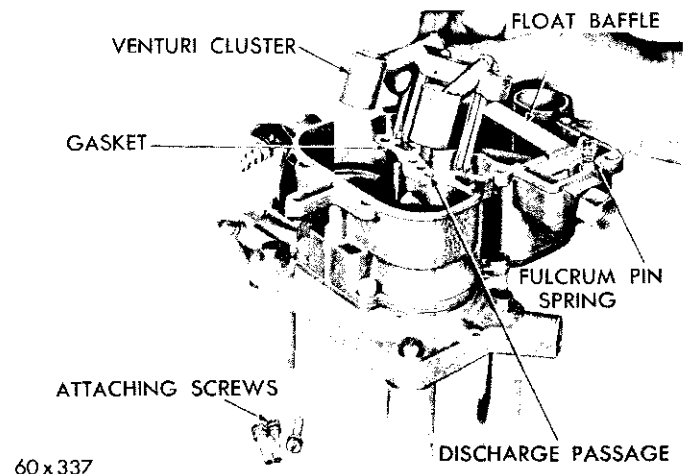
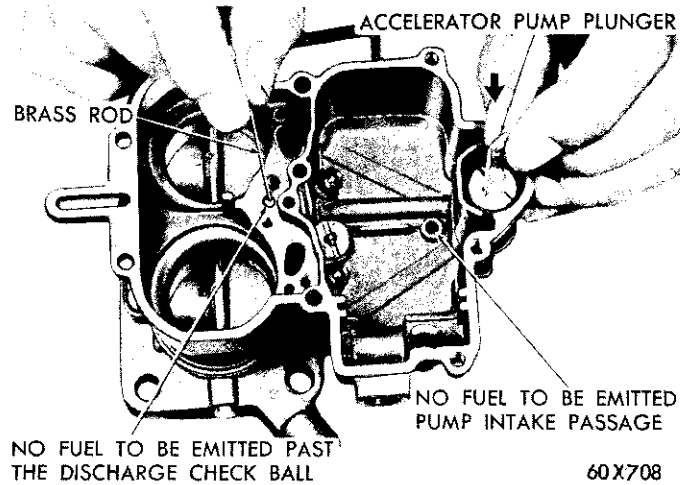

Fig. 17—Removing or Installing Venturi Cluster
Fig. 26—Testing Accelerator Pump
(1) Remove the venturi cluster attaching screws, the venturi cluster and gasket, as shown in Figure 17.
(4) Invert the carburetor main body and drop out the discharge check ball from the discharge passage (Fig. 17), and the accelerator pump inlet check ball from the pump well.
(2) Using a small clean brass rod, hold the discharge check ball firmly down on its seat. Raise the pump plunger and press downward. No fuel should be emitted from either the intake or discharge passage, as shown in Figure 26.
(3) If any fuel does emit from either the intake or discharge passages, it indicates the presence of dirt or a damaged check ball. The passages should be recleaned and then thoroughly blown out with compressed air. Examine the check ball for signs of damage that would not allow the ball to seat properly.
(4) Reinstall the check ball and test again. If still leaking, place a piece of drill rod down on the check ball and rap sharply with a hammer. Remove the old check ball and install a new one. Then retest. (This operation forms a new ball seat in the carburetor casting.)
(5) Install the venturi cluster gasket and slide the venturi cluster down into position (Fig. 17). Install attaching screws and tighten securely.